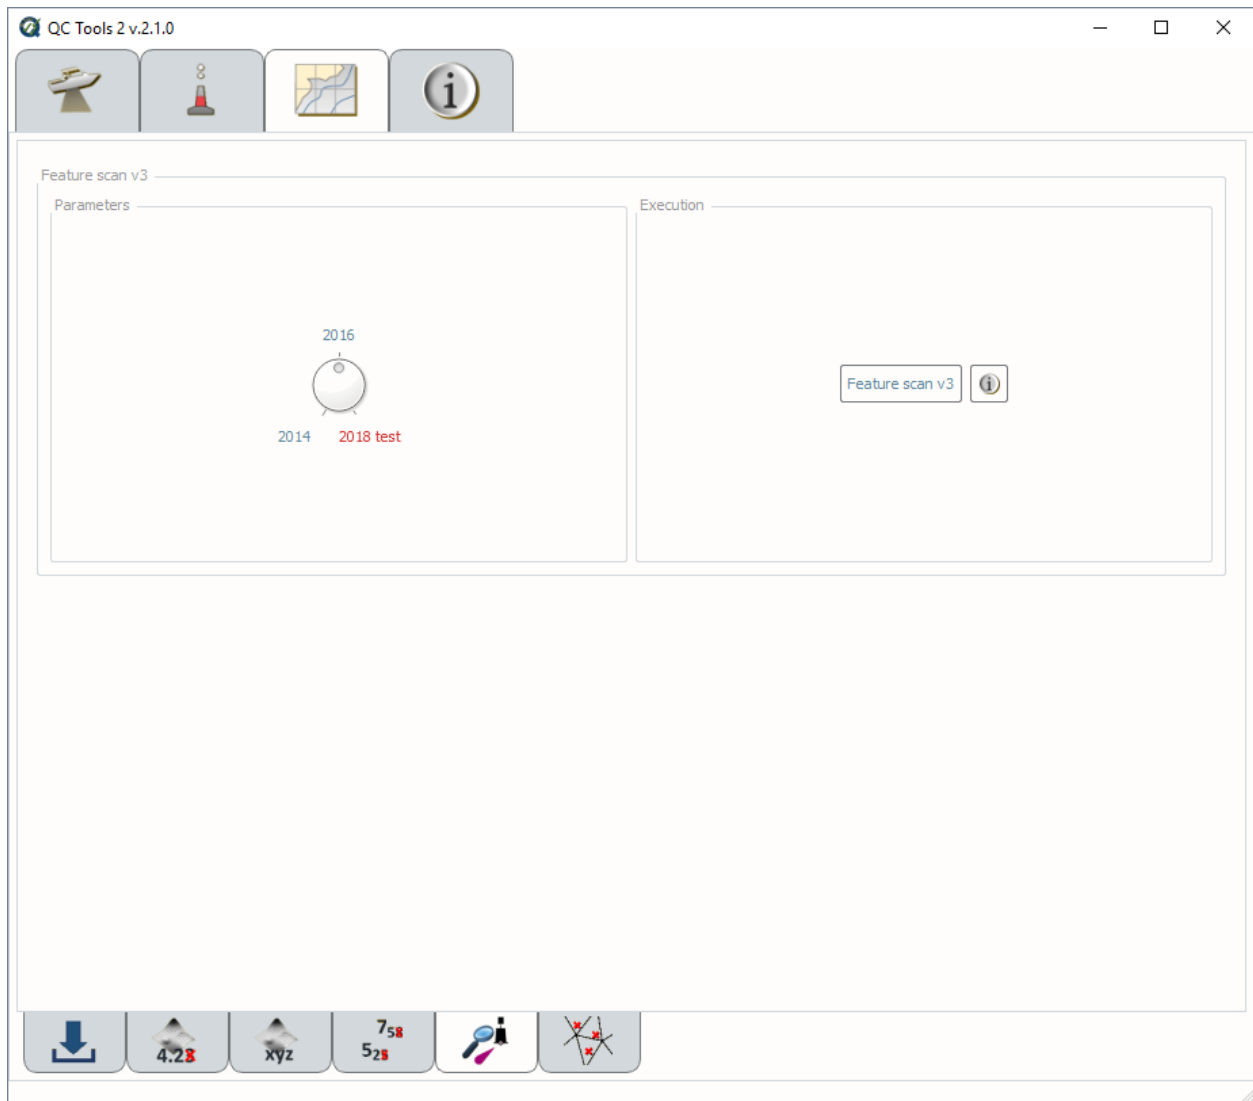

Fig. 2.65: Feature scan's interface.
- In **Parameters** (Fig. 2.65, left side), turn the knob to select the required year of HCell Specification. Currently, the '2018 test' is duplicative to 2016.
- In **Execution** (Fig. 2.65, right side), click **Feature scan v2**.